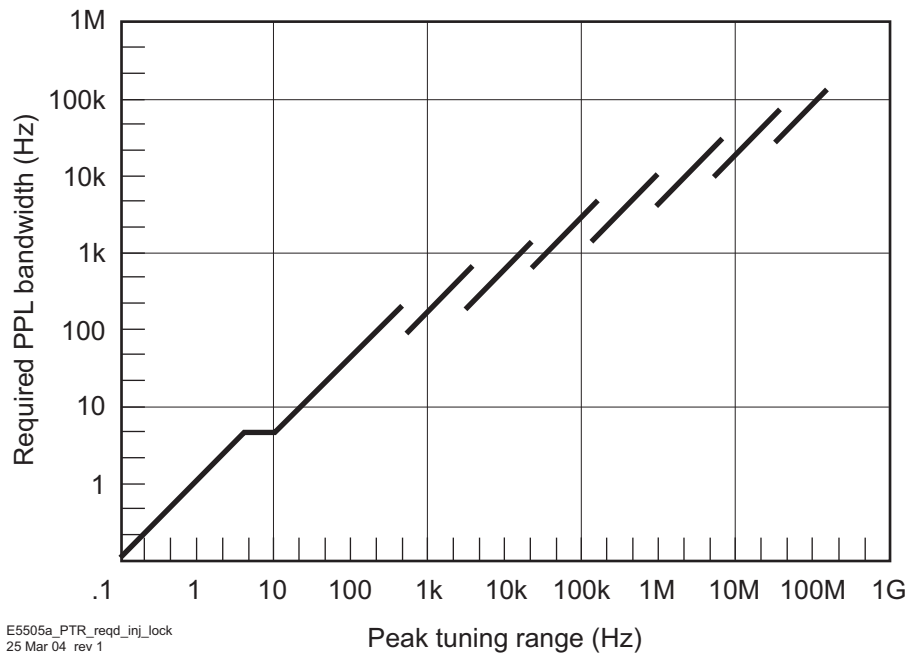

Figure 82 Phase lock loop bandwidth provided by the peak tuning range
- 2 Estimate the Phase Lock Loop (PLL) bandwidth for the measurement using the PTR of your VCO and the graph in Figure 82.